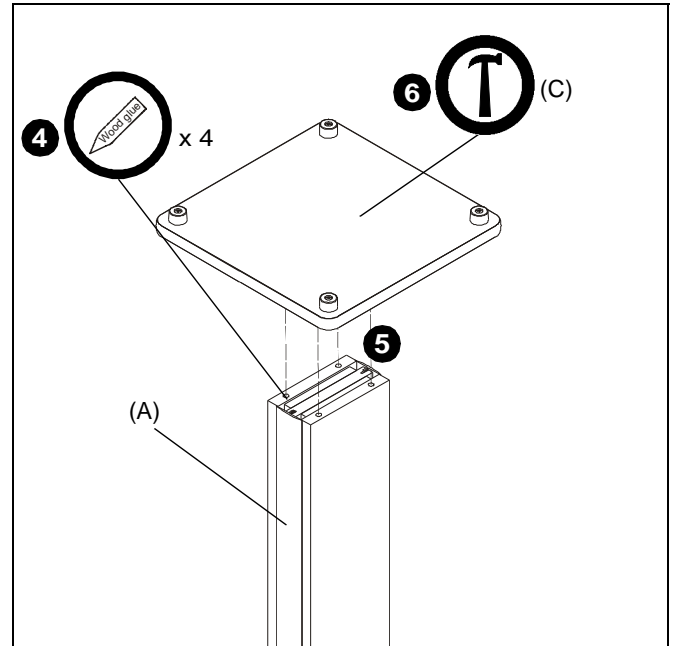

Figure 2
4. Fill the four holes on either end of the center column half full of wood glue. (See Figure 2)
5. Line up dowels (D) installed on bottom plate (C) with holes on center column (A) and insert dowels into holes. (See Figure 2)
6. Use a hammer to gently tap dowels into holes. Place another piece of wood on top of bottom plate to prevent hammer marks. (See Figure 2)